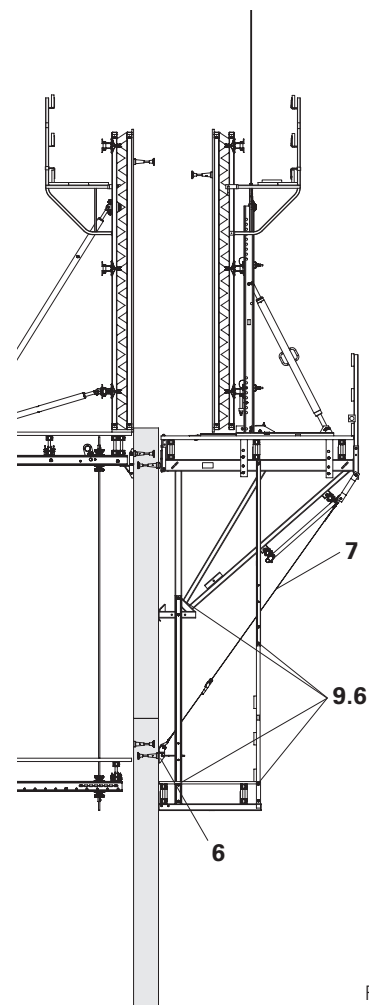

Fig. B1.31
12. Mount tension anchor (6) and (7). (Fig. B1.31)